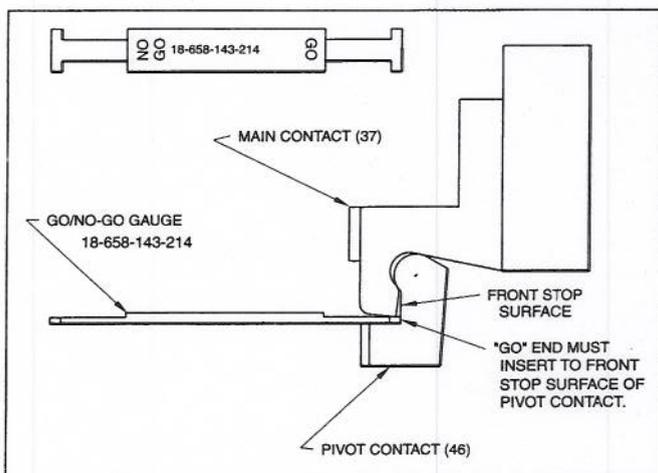
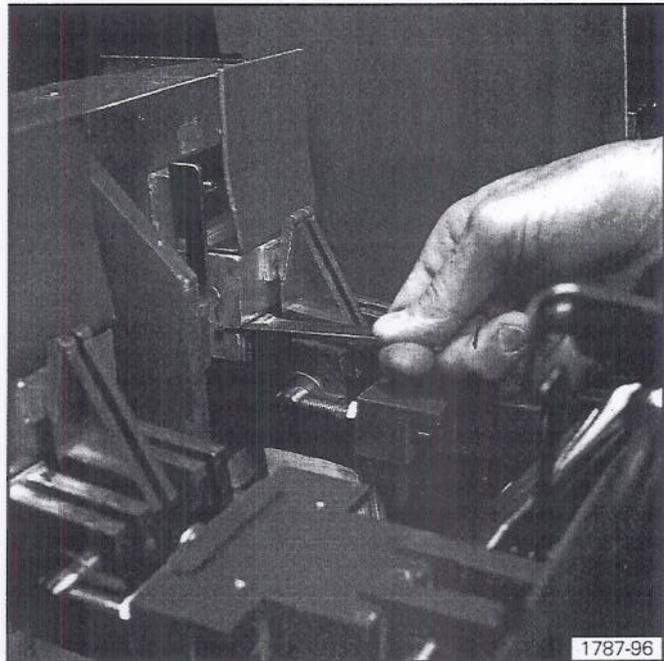

Figure 6. Use of the GO/NO-GO Gauge to Check Main Contact Make (Compression)
Figure 7. Check of Main Contact Make (Compression) Using GO/NO-GO Gauge
For convenience, a GO/NO-GO feeler gauge (part no. 18-658-143-214) can be used to measure the gap between the contact finger (46) and the extruded portion of the upper contact assembly (37). This measurement is made with the breaker closed. The outside contacts (46) on each pole must be checked and adjusted, such that the GO end of the gauge can be inserted into the gap all the way to the front surface of the contact finger's vertical portion. The NO-GO end should not be able to be fully inserted. **Figure 6** shows the GO/NO-GO gauge and the manner in which it is inserted between the contact fingers (46) and the upper contact assembly (37). **Figure 7** shows use of the GO/NO-GO gauge on an RL circuit breaker.